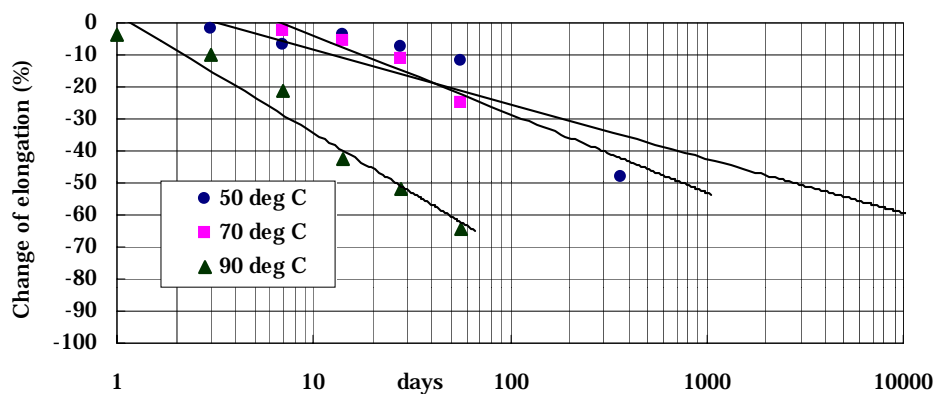

Fig.1) Relationship between change of elongation and days
We can read half-life of elongation from Fig.1) as follows, Expression (3) - (5) show approximate expression of change of elongation and days data.